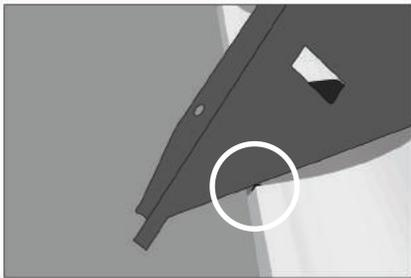
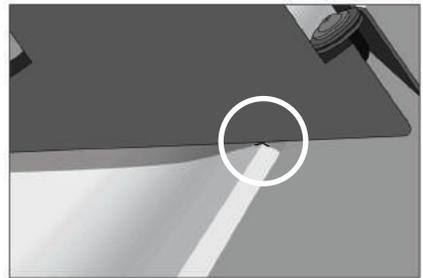
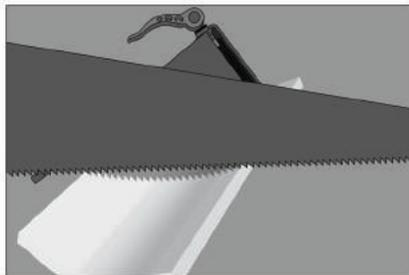
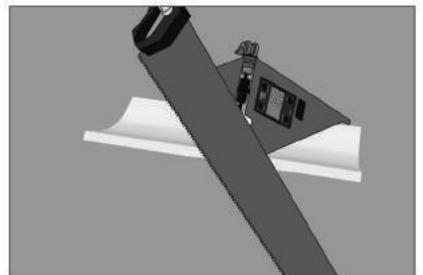

fig 16
fig 17
fig 18
fig 19
- Line the correct cutting side up with the mitre marks (**fig 16 & fig 17**) (note: securing tabs will NOT both sit tightly against the wall edge of the coving). Saw through the coving with the blade flush to the cutting face. As above, cut along the right wing for the right side of an external mitre (**fig 18**) and the left wing for the left side (**fig 19**). For an internal mitre, cut along the left face for the right side and the right face for the left side. (See piece diagram 2)